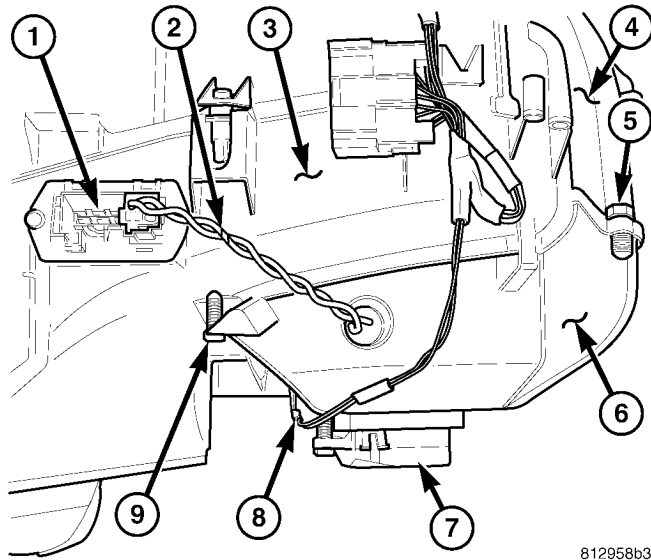

Fig. 6 Lower Air Inlet Housing
(3) Pull back the carpet to access the front upper screw that secures the air inlet housing.
(4) Remove the recirculation door actuator (Refer to 24 - HEATING & AIR CONDITIONING/CONTROLS - FRONT/RECIRCULATION DOOR ACTUATOR - REMOVAL).
(5) Remove the recirculation door actuator wire lead from the routing clip located on the lower air inlet housing and position the wire lead aside.
(6) Disconnect the blower motor wire lead connector from the blower motor resistor or power module, depending on application.
(7) Remove the one screw (from the top) that secures the lower air inlet housing to the upper air inlet housing (Fig. 6).
(8) Remove the four screws (from the bottom) that secure the lower air inlet housing to the upper air inlet housing and remove the lower HVAC housing.